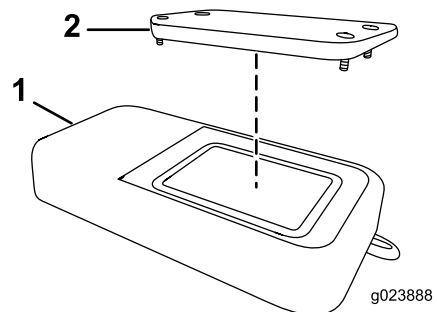

Figura 56
2. Remova a tampa (Figura 56).